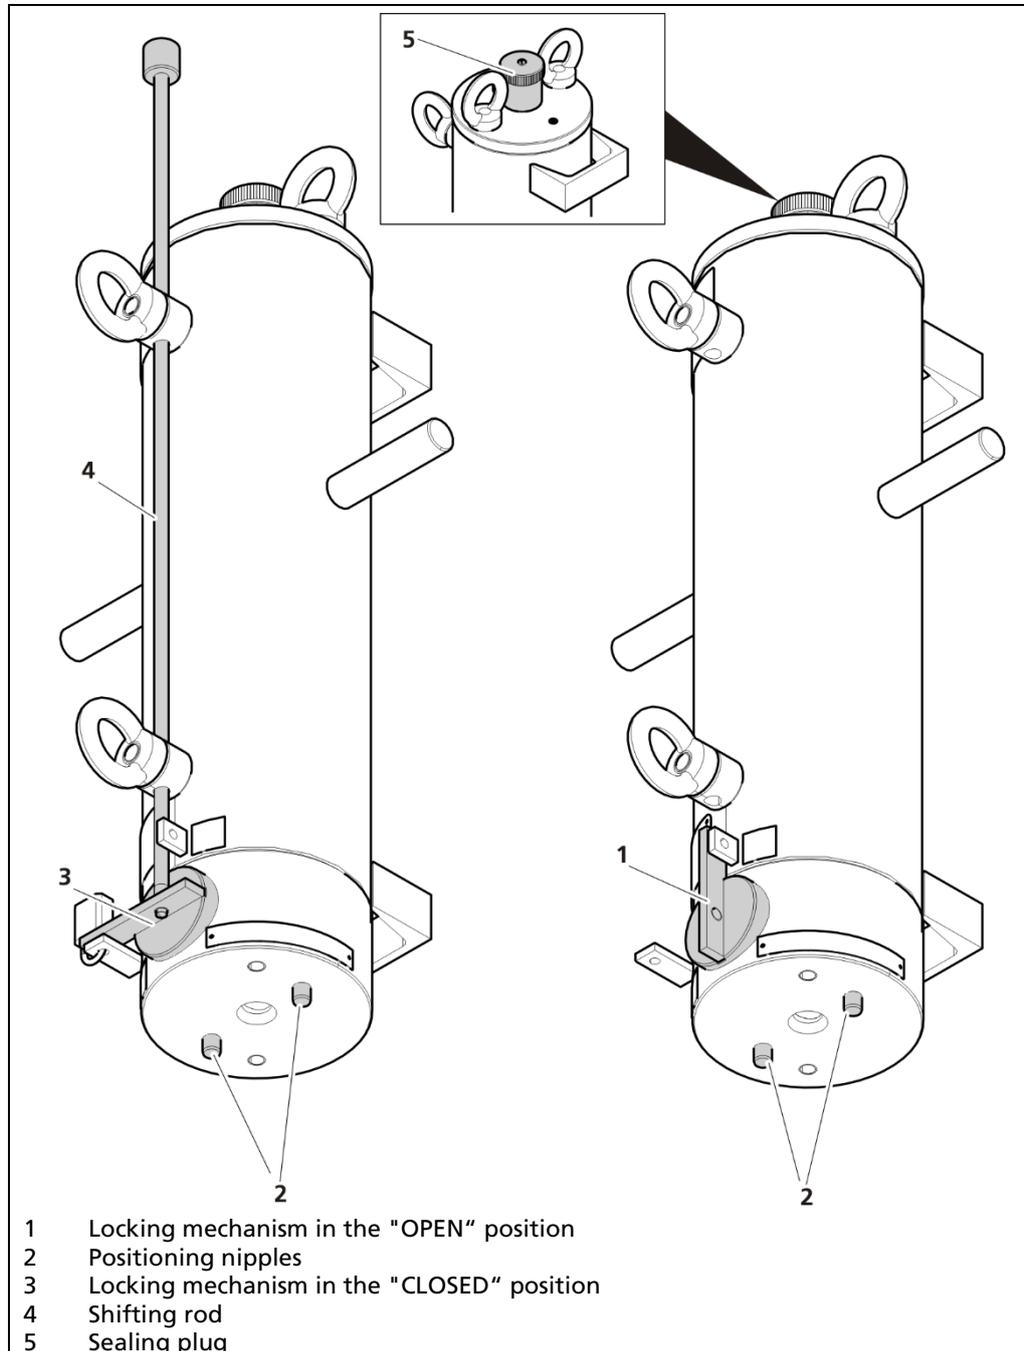
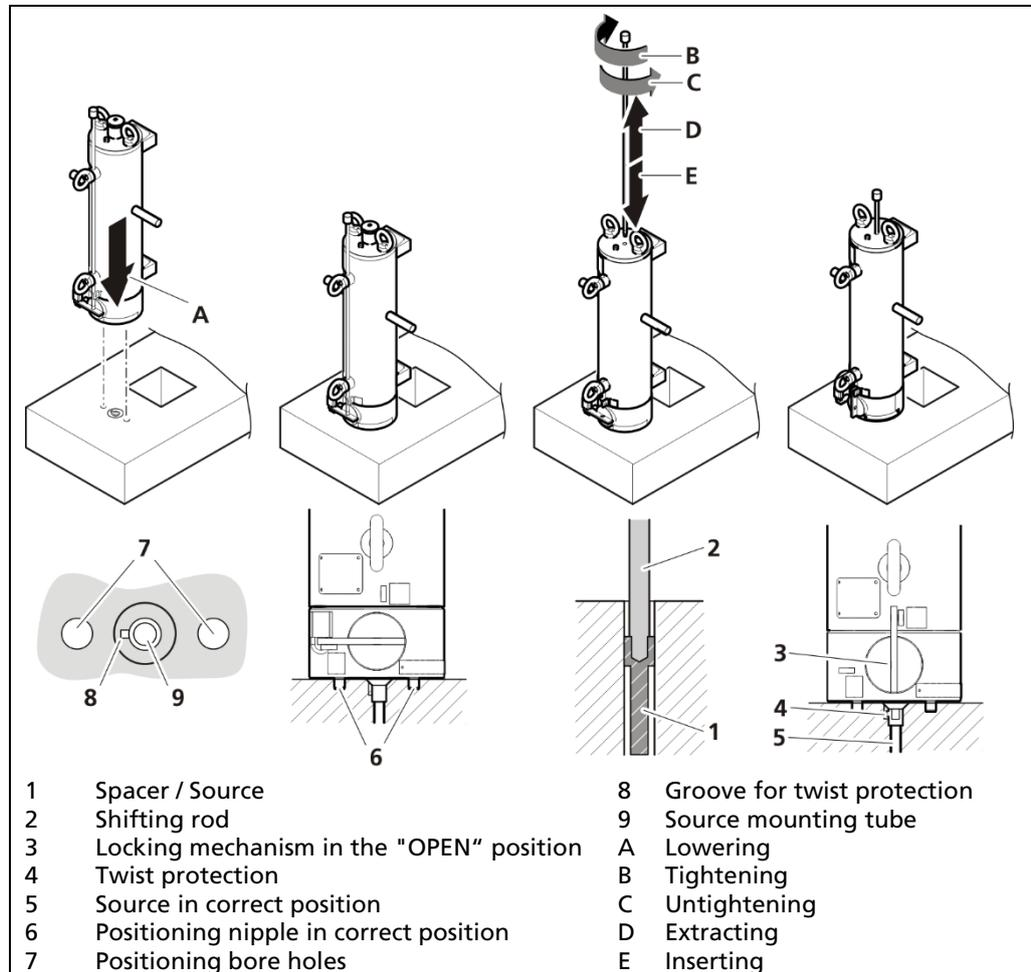

Fig. 7 Left: Locking mechanism in the "CLOSED" position, secured by shifting rod, right: Locking mechanism in the "OPEN" position
Fig. 8 Mounting the source
4. Direct the transfer shield above the protective tube in a way that the positioning nipples (Fig. 8, pos.6) fit into the positioning bore holes (Fig. 8, pos.7) at the mold side.
5. Remove the screwed sealing plug (Fig. 7, pos.5) on top of the transfer shield.
6. Remove the shifting rod (Fig. 7, pos.4) from the bracket and, from above, screw it (Fig. 8, B) into the head of the source within the transfer shield.
7. Open the locking mechanism of the shield (Fig. 8, pos.3) and carefully insert the source (Fig. 8, pos.1) into the mounting tube within the mold by means of the shifting rod.
8. Ensure that the entire source is located within the protective tube (Fig. 8, pos.5) and that the pin of the twist protection at the head of the source latches into the respective groove (Fig. 8, pos.4).
9. Unscrew the shifting rod from the source (Fig. 8, C) and pull it upwards (Fig.